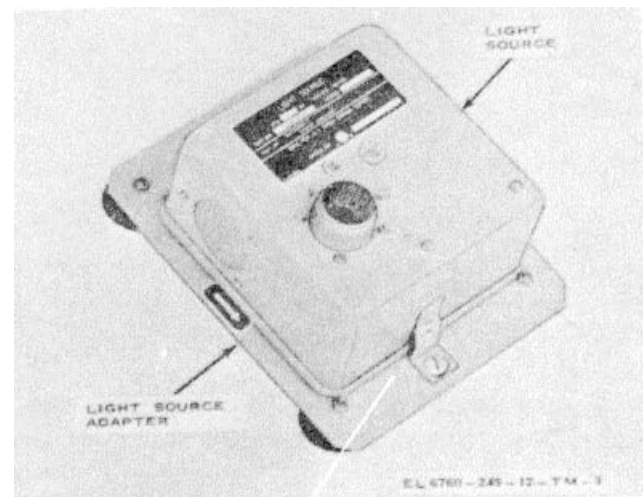

Figure 1-3. Light source and light source adapter.
e. *Light Source* (fig. 1-3). The light source is a metal assembly which simulates a flash burst to test the flash detector in the ACCS. The light source consists of a photocell, two lamps, and a fan motor, all contained in a metal case. The metal case has a connector which provides the connection to the test panel LIGHT DETECTOR LIGHT SOURCE connector. On the other side of the metal case is a translucent window which transmits the light to the ACCS sensor. The metal case has three vent holes and two Dzus fasteners
*f. Light Source Adapter* (fig. 1-3). The light source adapter consists of a metal plate with four suction cups and a 4-inch diameter hole. The light source translucent window is aligned with the 4-inch hole in the adapter and secured with the two Dzus fasteners. The suction cups permit securing the entire assembly to the skin of the aircraft.